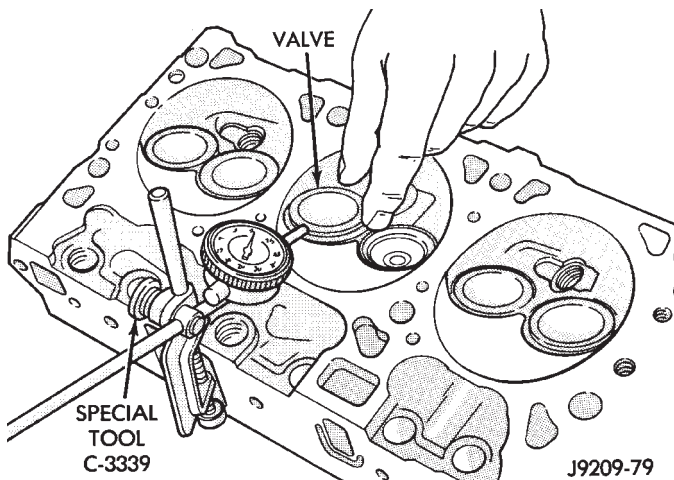

Fig. 52 Measuring Valve Guide Wear
(2) Attach dial indicator Tool C-3339 to cylinder head and set it at right angles to valve stem being measured (Fig. 52).